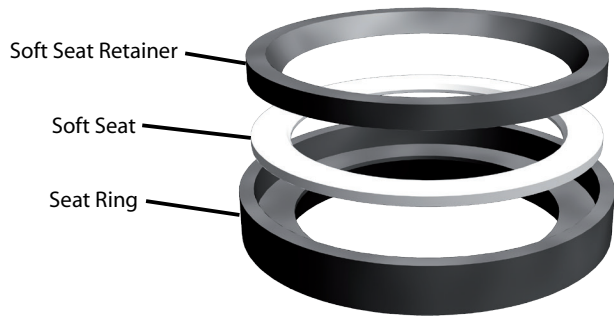

Figure 4: Soft Seat Assembly
- 6.5 Valves with soft seats (see figure 4) require the seat ring to be inspected and possibly disassembled. Check to see that seating surfaces on the plug and seat assemblies are free of damage. If the seat insert is worn, remove it from the assembly. Since the plug seating surface does not come in contact with the seat insert retainer, it is not necessary to correct any minor damage to that part. The plug seating surface can be re-machined to a 30 degree angle. Lapping is not required when proper reassembly procedures are followed.